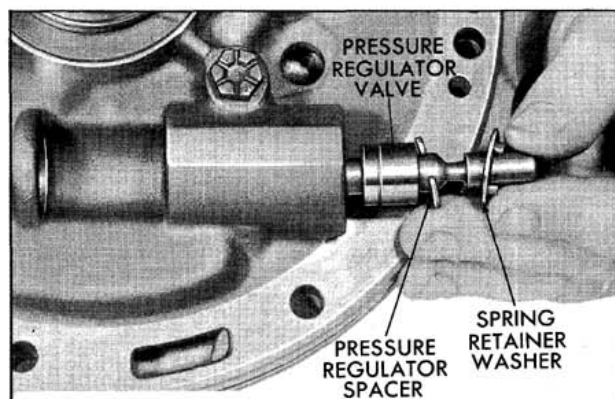

Fig. 6-103 Removing Valve Spacer and Retainer
6. Remove the regulator valve, spring retainer and spacer(s) if present. (Fig. 6-103)